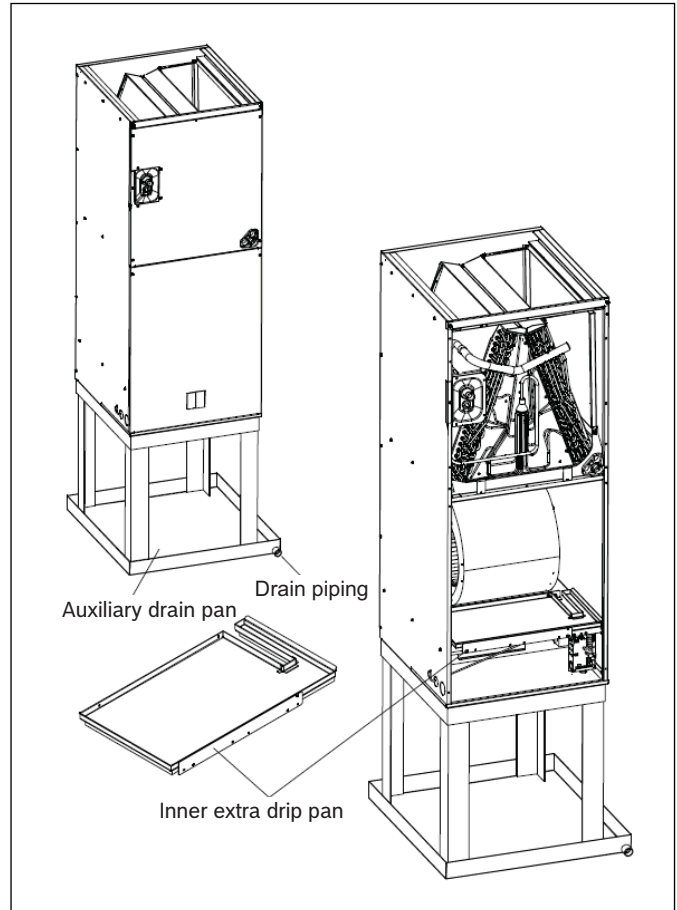

Figure 6 Installed Vertical Downflow
- ▶ Inner extra drip pan is recommended to be installed for 4 and 5 ton vertical downflow applications installed in high humidity environments. This inner extra drip pan can be ordered from the manufacturer as a spare part number 8733953539. Refer to Figure 6.